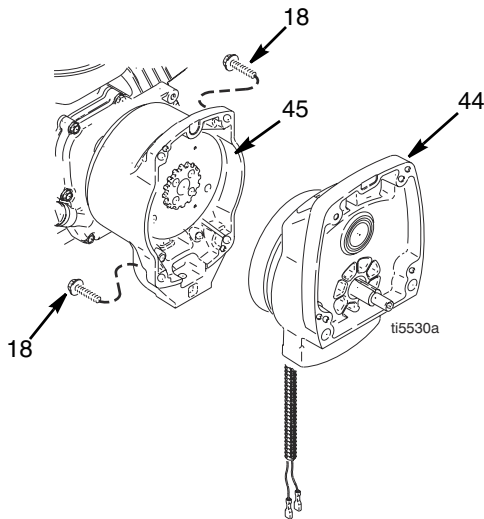
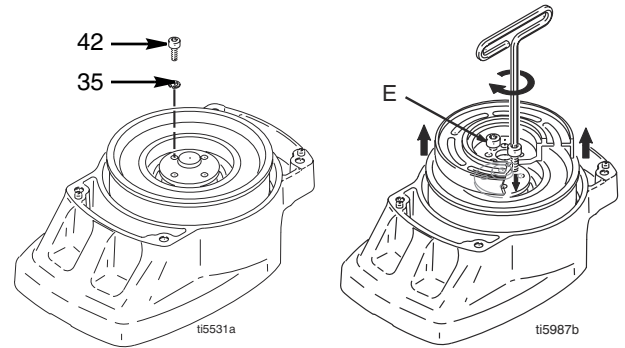

FIG. 4
FIG. 5
4. FIG. 4. Remove four screws (18) and pinion assembly (44).
5. FIG. 5. Place pinion assembly (44) on bench with rotor side up.
6. Remove four screws (42) and lock washers (35). Install two screws in threaded holes (E) in rotor. Alternately tighten screws until rotor comes off.
- FIG. 5. Place pinion assembly on bench with rotor side up.
- Apply locktite to screws. Install four screws (42) and lock washers (35). Alternately torque screws to 125 in-lb until rotor is secure. Use threaded holes to hold rotor.
- FIG. 4. Install pinion assembly (44) with four screws (18).